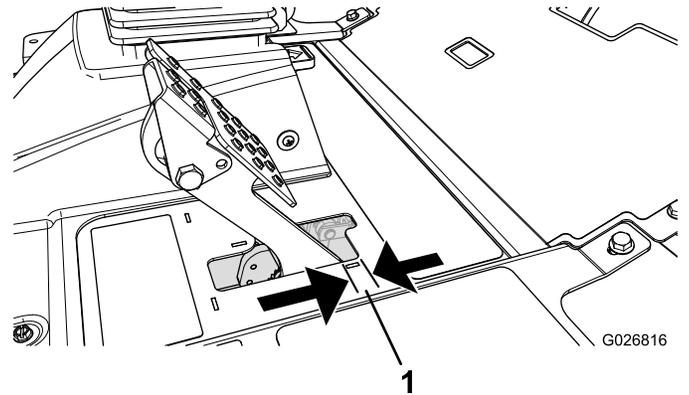

Figure 86
Adjust the brakes when there is more than 2.5 cm (1 inch) of free travel of the brake pedal, or when more holding force is required (Figure 86). Free travel is the distance that the brake pedal moves before you feel braking resistance.
2. Tighten the rear nut to move the cable backward until brake pedals have 0.63 to 1.27 cm (1/4 to 1/2 inch) of free travel, before the wheel locks up (Figure 86).